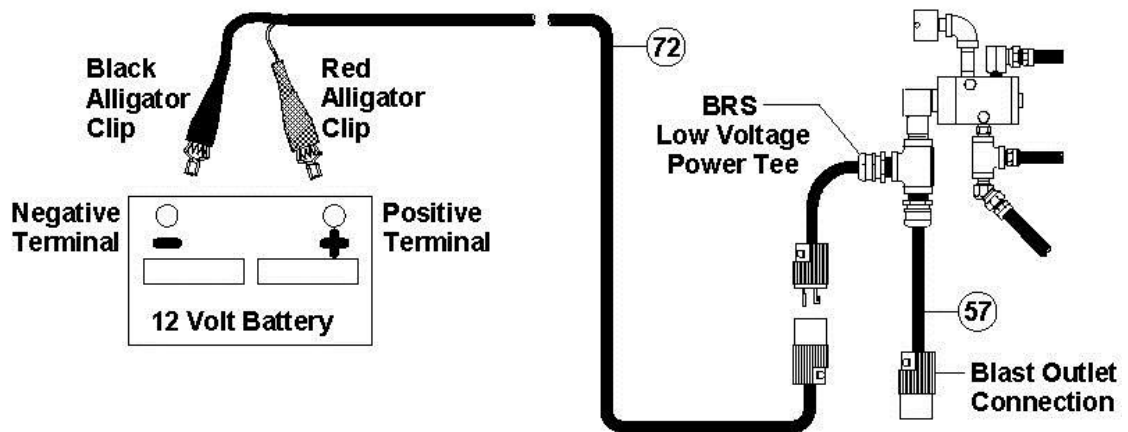

Figure 6.1 – Electric power connection
- 6.1.19. The following steps apply only to abrasive blasters with electric systems. (See Figure 6.1) Connect the electric power cord (#72) to the blaster junction tee connector.
- 6.1.20. Connect the electric power cord alligator clips (#72) to the air compressor battery terminals or to another 12Vdc power source. See Figure 6.1.